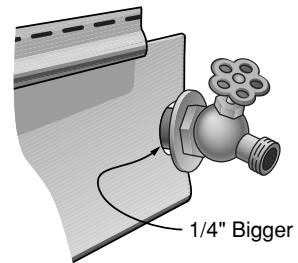

Fig. 3
For handling protrusions around the wall, refer to the figure (Fig. 3) for hand fabricating, or use manufacturers' accessories specifically designed for this purpose. In addition, the following tips are suggested:
- Cut a slot 1/4" bigger than the fixture. (Fig. 3)